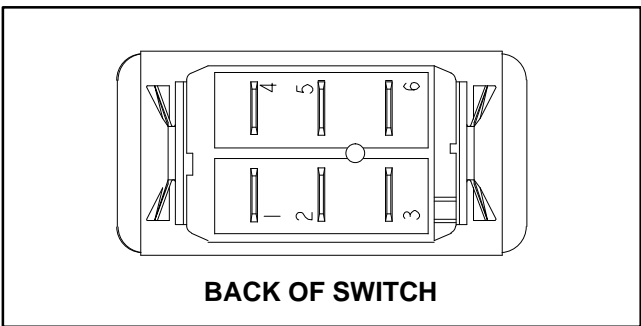

Figure 37
4. The deck lift switch terminals are identified in Figure 37 and the circuitry of the lift switch is shown in Figure 38. With the use of a multimeter (ohms setting), the switch functions may be tested to determine whether continuity exists between the various terminals for each switch position. Verify continuity between switch terminals.